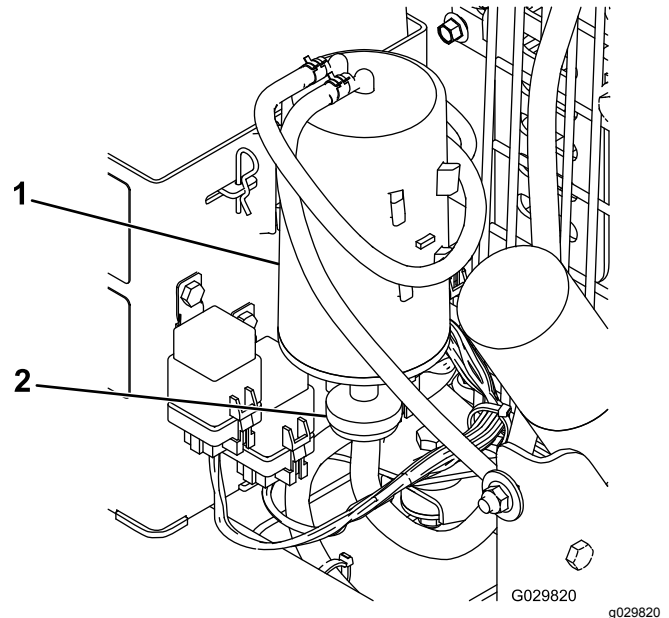

Figure 19
2. Remove and discard the carbon canister air filter, but retain the hoses (Figure 19).